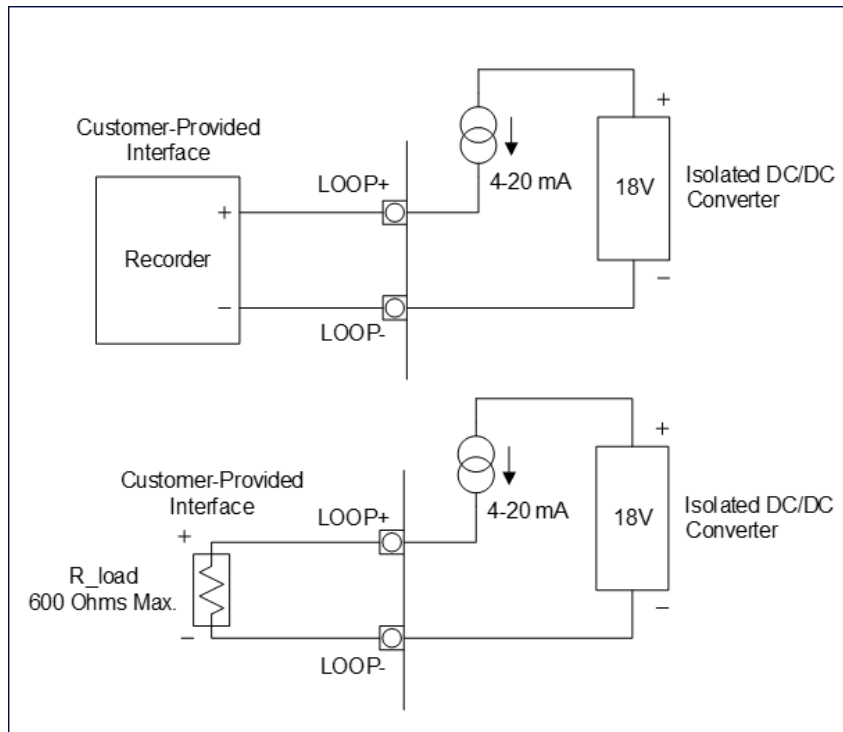

Figure 4: Typical 4-20 mA Circuit Applications
- 4-20 mA Analog Current Loop Outputs — Table 3, "Alarm Relay Output Detail," on page 69 and "Figure 4: Typical 4-20 mA Circuit Applications" on page 70.
The data from the Analyzer can be recorded using the 4-20 mA outputs located on the J4 terminal block. Refer to the following pin-out information (Table 2.) and typical circuit applications (Figure 4.) when installing 4-20 mA Analog output wiring.